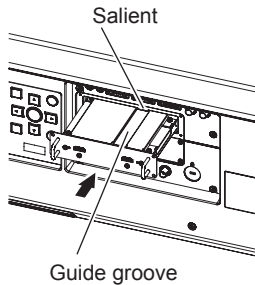

Fig. 2
2) Install the Interface Board to the display device. (Fig. 2)